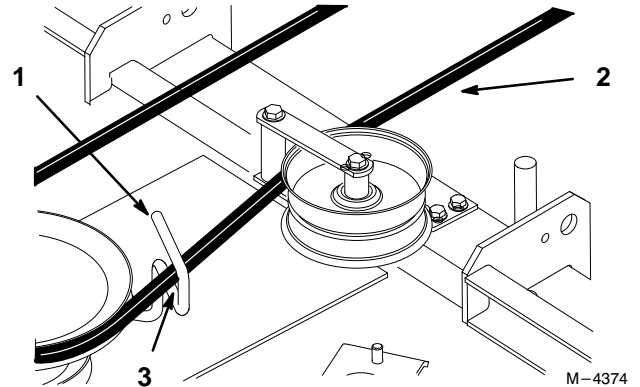

Figure 12
1. Loosen belt guide (Fig. 12).
2. Rotate the belt guide, so it is 1/8"-1/4" (3-7 mm) away from the vertical side of the PTO belt (Fig.12).